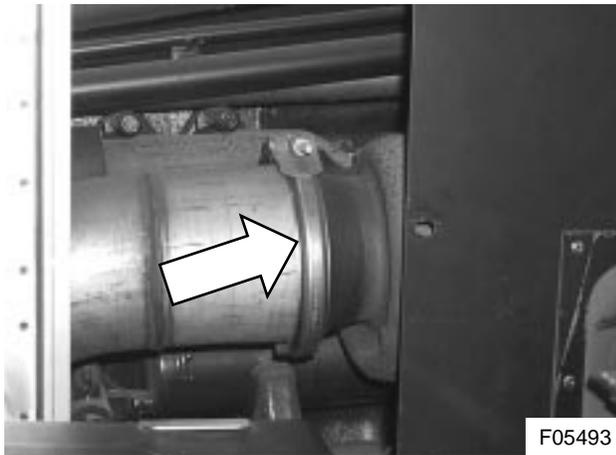

Figure 1: Downpipe to turbo exhaust clamp
- 3) Loosen and remove the clamp securing the exhaust downpipe to the turbo (see Figure 1). Recover the clamp.